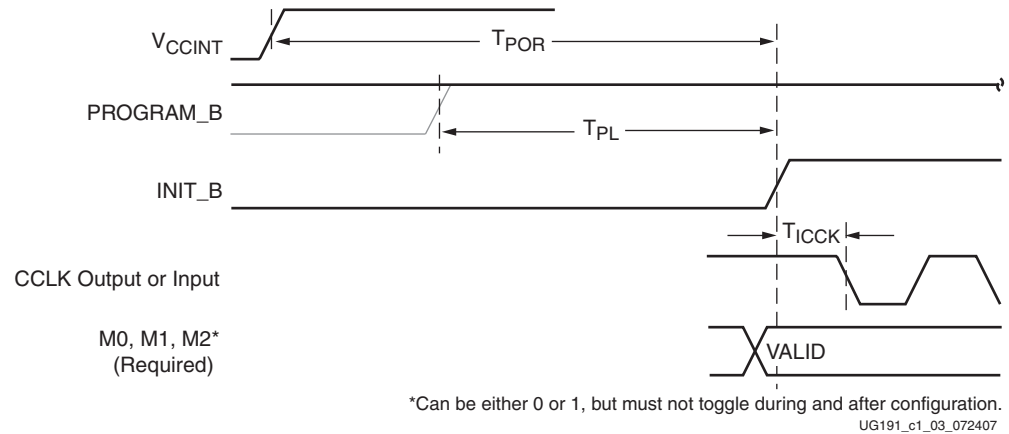

Figure 1-4: Device Power-Up Timing
Figure 1-4 shows the power-up waveforms.
Configuration memory is cleared sequentially any time the device is powered up, after the PROGRAM_B pin is pulsed Low, after the JTAG JPROGRAM instruction or the IPROG command is used, or during a fallback retry configuration sequence. **During this time, I/Os are placed in a High-Z state except for the dedicated Configuration and JTAG pins.** INIT_B is internally driven Low during initialization, then released after T_{POR} (Figure 1-4) for the power-up case, and T_{PL} for other cases. If the INIT_B pin is held Low externally, the device waits at this point in the initialization process until the pin is released.
- The first is to hold the INIT_B pin Low during initialization (Figure 1-4). When INIT_B has gone High, configuration cannot be delayed by subsequently pulling INIT_B Low.